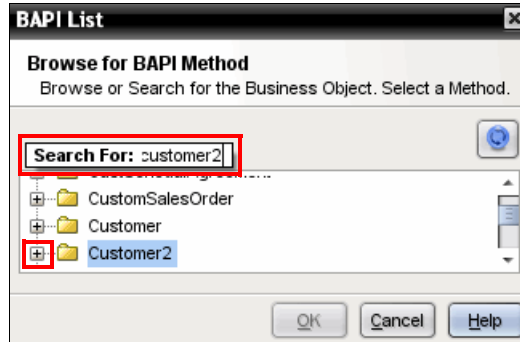

Figure 10-100 Browse SAP Business Objects
- b. Click the **Business Object Repository** line, and then enter the first letter of the search string customer2. In the Search For entry field, enter the next letters of the search string. While you are entering the business object name, the cursor moves to the right position in the list, as shown in Figure 10-100.